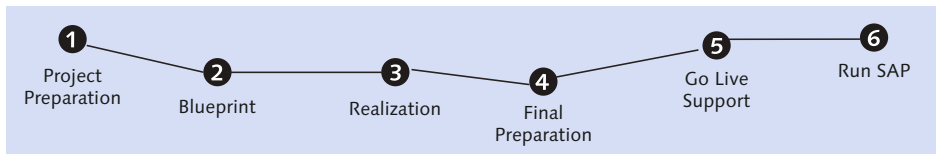

Figure 1.6 ASAP Implementation Methodology
- ▶ Choice of Agile or Standard ASAP implementation approach of your SAP solution (see Figure 1.6)